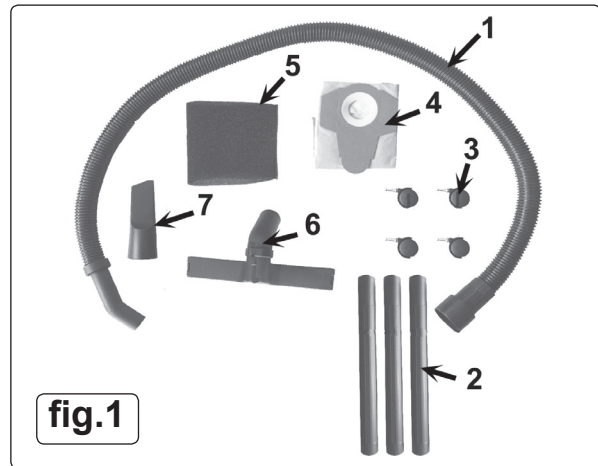

fig.1
- 4.1. Contents (fig.1) are inside cleaner body (except items 2).
- 4.3. Undo the clasps, remove the top section and take out the items in the container (fig.1).
- 6.1.6. Assemble required tube and hose arrangement. (fig.1) (fig.4).